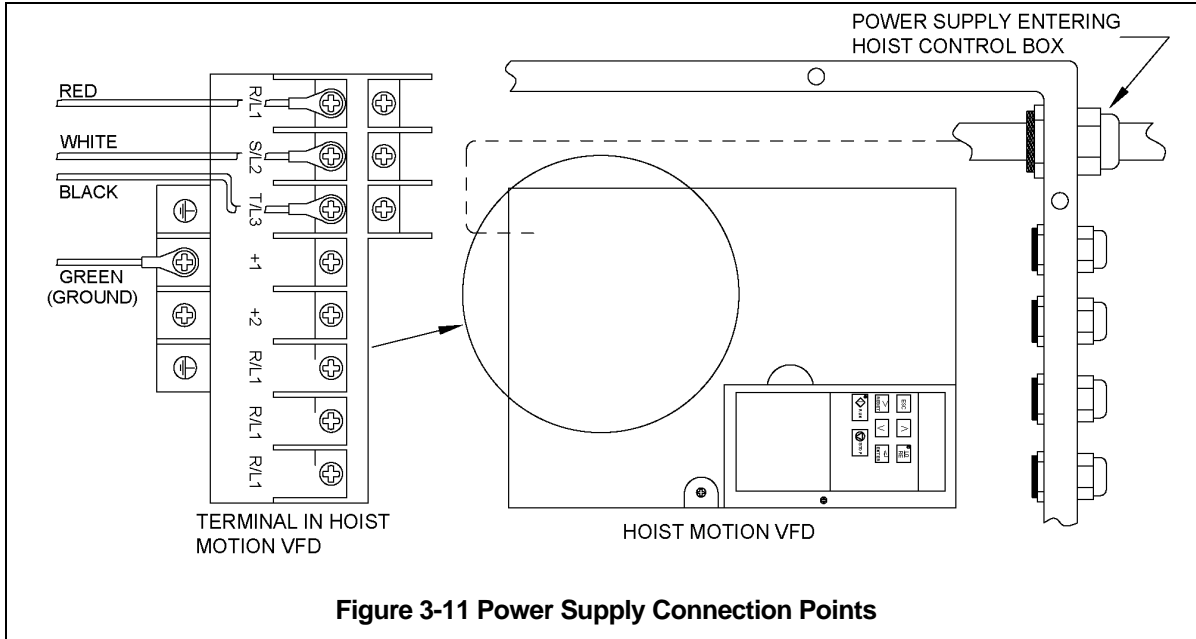

Figure 3-11 Power Supply Connection Points
- 1) Refer to **Figure 3-11** and the wiring diagram provided with the Hoist.
- 3) Multiple cable fittings/clamps are available for use on both sides of the Control Panel for the Power Supply Cord. Loosen the selected cable fitting/clamp and insert the Power Supply Cable. Pull through enough cable to reach the power supply terminal and securely tighten the cable fitting as shown in **Figure 3-11**.
- 5) Connect the 3 phase power leads (L1, L2 and L3) and the ground lead of the Power Supply Cable to the power supply terminals, Red, White, Black and Green/Yellow (ground). Make sure the terminals are securely tightened and each lead is completely isolated as shown in **Figure 3-11**.